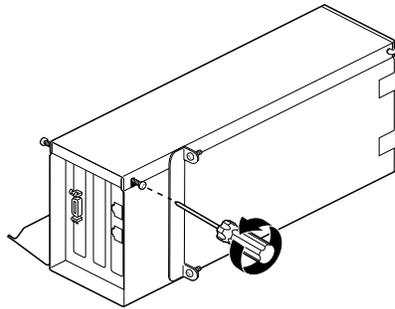

Figure 4-11 Loosening the Screws on the PCI Module
1. Turn the PCI module on its side, as shown in Figure 4-11.